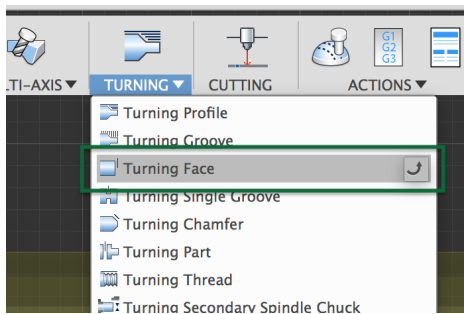

FIGURE 1.16: CREATING A TURNING FACE OPERATION.
- On the ribbon, under the **Turning** dropdown, select **Turning Face**, shown in Figure 1.16.